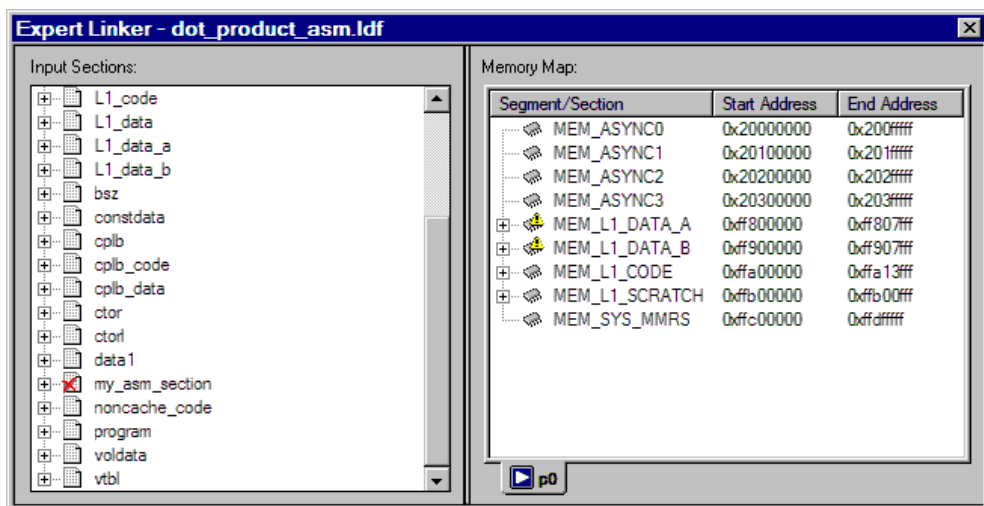

Figure 2-18. Expert Linker Window
- In the **Project** window, double-click in the `dot_prod_asm.ldf` file. The **Expert Linker** window (Figure 2-18) opens with a graphical representation of your file.
Resize the window to expand the view and change the view mode. To display the tree view shown in Figure 2-18, right-click in the right pane, choose **View Mode**, and then choose **Memory Map Tree**.